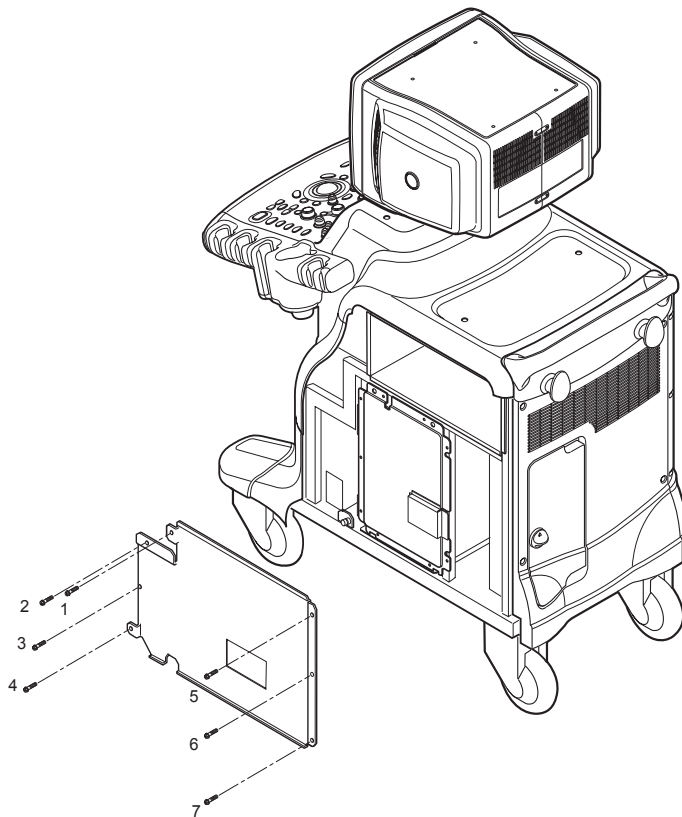

Figure 8-67 Removing the EMI Cover R
- 2.) Unscrew seven (7) screws (1-7).
- 3.) Remove the EMI Cover R. Refer to Figure 8-67 on page 8-51 .